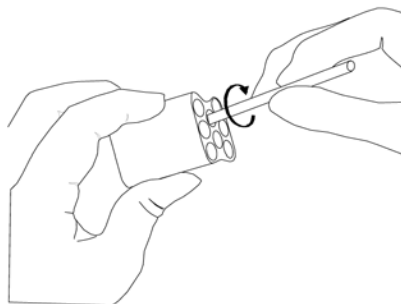

Figure F.1.3b: Re-lubricating 1250 - 250 μ l Pipettes
- 1250 μ l and 250 μ l Pipettes: Use the wooden applicator and O-ring lubricant supplied in the Preventive Maintenance/Autoclave Kit to apply a thin layer of lubricant approximately 0.5 inches (*approx. 1.3 cm*) down into each piston hole that requires it. Spread the lubricant evenly along the inner wall of each cylinder by using a circular motion with the wooden applicator (*see Figure F.1.3b*).